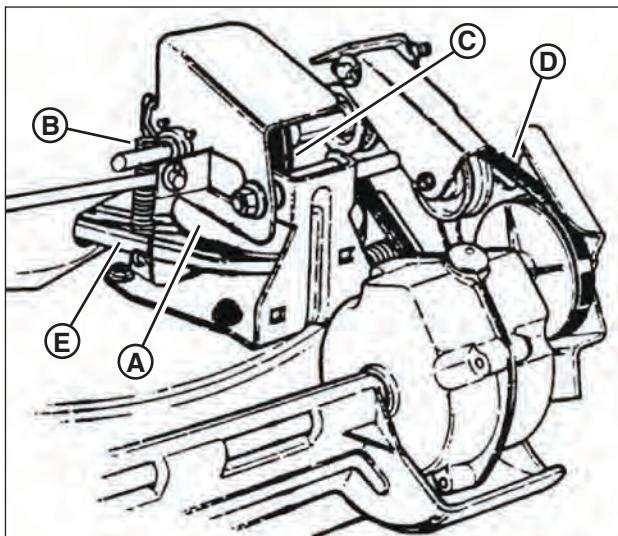

Figure 24: Wheel drive components
1. Grease on the drive disc (**A**, Figure 24) causing slippage.